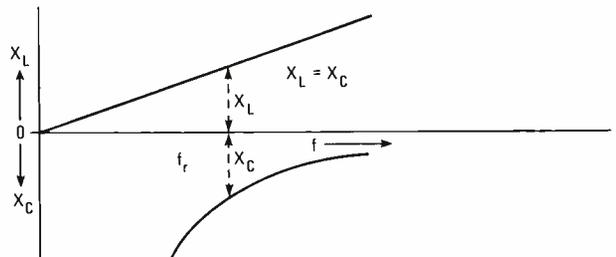

Fig. 4— $X_L$  always equals  $X_C$  at the resonant frequency.
7. (resonance, 7) As you know, both  $X_L$  and  $X_C$  vary with frequency. The graphs in Fig. 4 show this variation.  $X_L$  increases as frequency increase.  $X_C$  decreases with frequency. But for various combinations of L and C, there is one frequency where  $X_L = X_C$ . This is said to be the resonant frequency ( $f_r$ ) of this LC circuit. If we change either L or C, the  $X_L$  or  $X_C$  changes and the resonant frequency  $f$  changes.